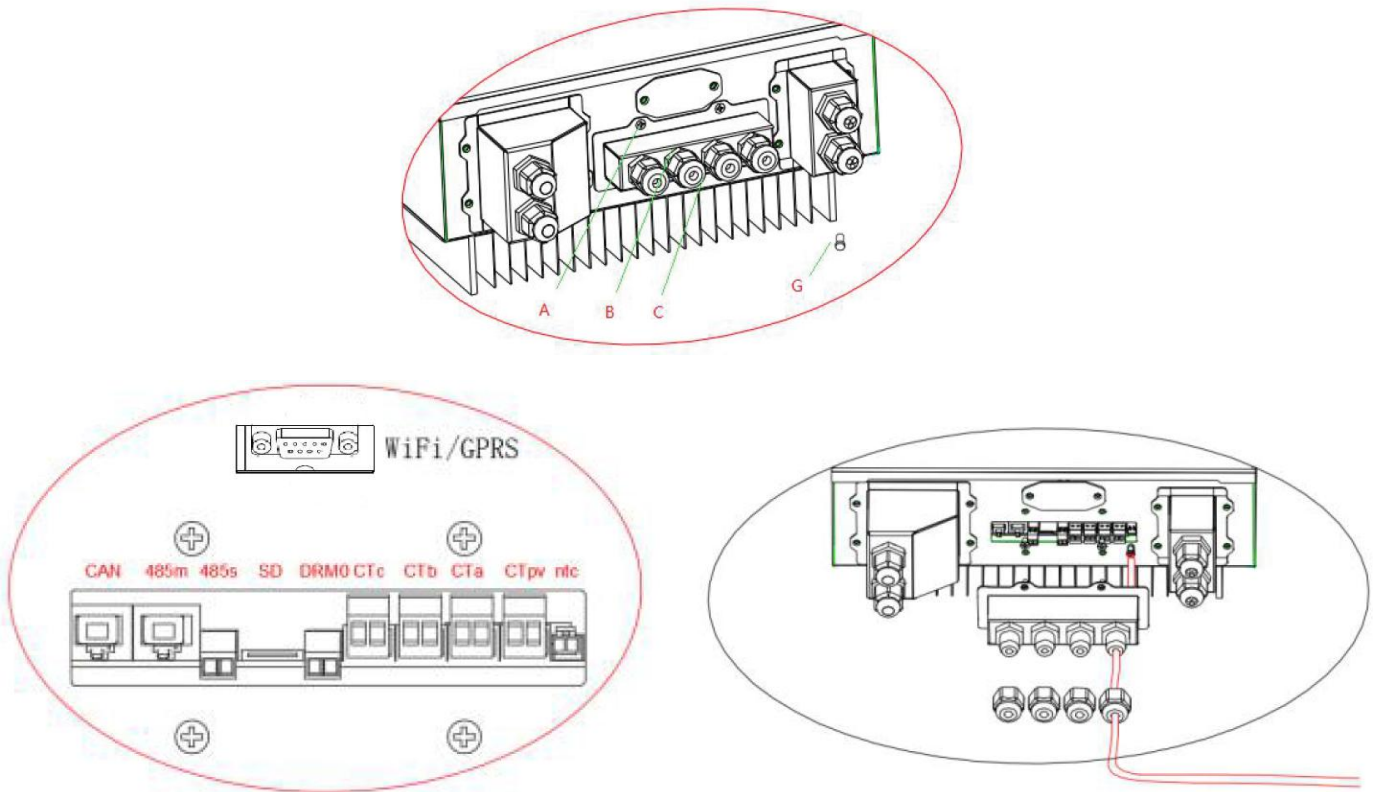

Figure 24 - Connecting the CT cables for the current sensors
- 3) Unscrew the 4 screws (A) of the central cover with a star screwdriver (figure 24).
- 4) Remove the waterproof cover (B), loosen the cable gland (C), and then remove the stopper (G).